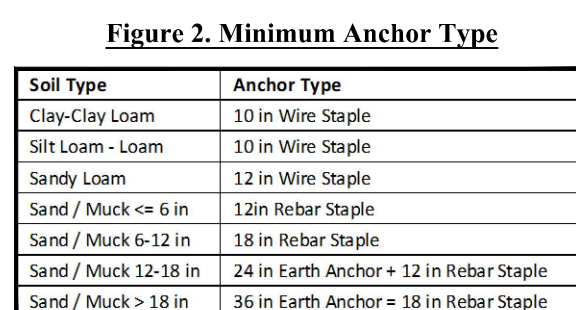

Figure 3. Anchor Patterns for use with Wire/Rebar Staples
1. When installing ShoreMax mat, the anchor pattern (figure 3 or 4) should be selected based on the expected maximum design conditions (shear stress, velocity, or wave impact) (figure 1).
6. At beginning of channel and areas where significant concentrated flows are directed onto the ShoreMax[®] mat, place 1 staple/penimeter foot along the leading edge of the ShoreMax[®] mat, resulting in 1 staple/penimeter foot on each corner and midline (figure 3).